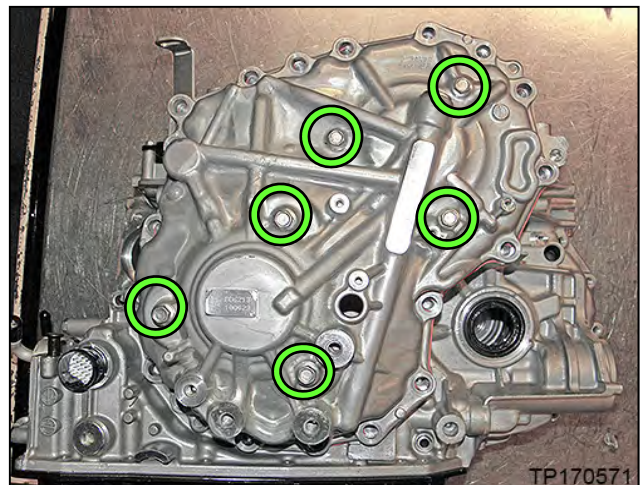

Figure 77
- Install the Lifting Fixture to the CVT case at the six (6) bolt holes shown in Figure 77 on page 35.
- Tighten the two (2) joints to the triangle brackets.